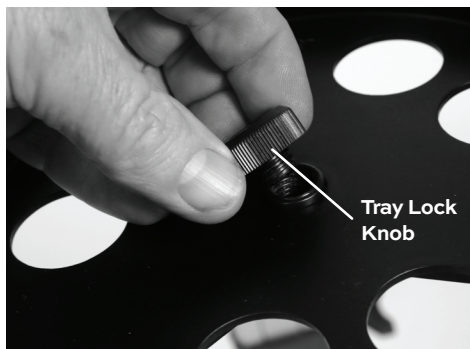

Figure 2.2
3. Locate the accessory tray lock knob in the center of the leg braces. Unscrew it. Place the tray (Item E) so the center hole fits over the center of the leg brace. Screw the tray lock knob back into place (Figure 2.2).